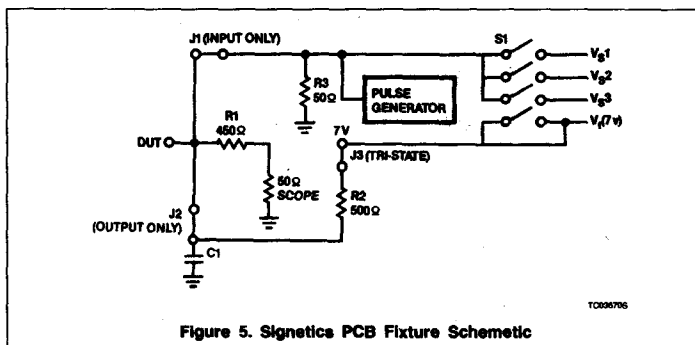
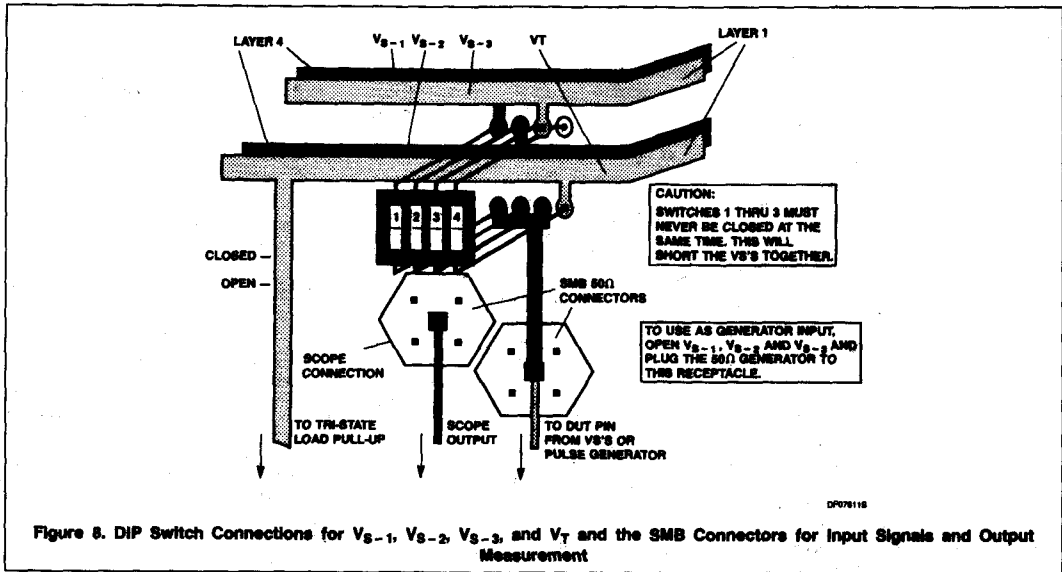

Figure 5. Signetics PCB Fixture Schematic
Figure 8. DIP Switch Connections for V_{S-1} , V_{S-2} , V_{S-3} , and V_T and the SMB Connectors for Input Signals and Output Measurement
There are two types of signal lines on this fixture: input and output; both of which are 50Ω transmission lines. The input line is on the top side of the board and is always terminated in 50Ω . It is connected to the DUT via a .3" jumper, Jumper #1 for input. When this jumper is installed, the DUT pin is available only as an input. To allow this line to be used as an output, a .1" jumper, Jumper #1 for output, is used instead of the .3" jumper. This connects the DUT pin to the AC load when the DUT pin is an output. See Figure 5.
As illustrated in Figure 5, the load is shared with the 50Ω input of the measurement system; a 50Ω sampling oscilloscope. The 450Ω resistor: R1, is soldered to the socket pin of the device and is in series with the 50Ω input of the scope. Figure 6 illustrates this on the board layout of one input/output pin. This allows virtually a probe tip on the device pin. The load capacitor: C1, is a 33pF ceramic chip capacitor. This is added to the measured value of 17pF of board capacitance, achieving the 50pF value specified for the load. The distance from the pin to the capacitor is .5 inches and is adequate for the testing of these product families.
For testing 3-State parameters, the 500Ω resistor: R2, is connected to its pullup supply. V_1 via a .3" jumper: Jumper #2. The V_1 supply is bussed to each pin and may or may not be connected with that jumper. See Figures 5 and 6.
hard to detect errors into the waveform. The second reason being that most suppliers of these technologies provide data based upon the Low-impedance approach and most large users of these products do so as well. This also allows the fixture to be used for ECL testing since that product uses a totally 50Ω environment. Figure 5 illustrates how this test fixture implements the 50pF/500Ω load schematically.
When the input is not used for a signal input, the line may be switched to one of three voltage sources: $V_S 1$ through $V_S 3$, by the use of a DIP switch on each pin. It may also be left open and then the 50Ω pulldown resistor: R1, pulls the line to ground and can be used as a hard low level. See Figure 5. These voltage levels are brought in from external supplies through banana connectors like V_{CC} . This scheme eliminates excessive cabling to each input to provide the static input levels and thereby reduces parasitic inductances and cross-talk. Each of the 3 busses and the V_i bus all have places for bypass capacitors in the event of noise on the static levels. Figure 8 illustrates the DIP switch and SMB connectors and how they control the input stimulus and output measurement.
As stated previously, the measurements are made with 50Ω sampling systems. The connections to these systems are made via SMB connectors. This was chosen since it is compatible with SMC; it is push-on, it is small for easy configuration, and it is capable of high bandwidth operation. Figure 8 illustrates where the connections are made, where the pulse generators connect to the input and an SMB connector. Since the 450Ω resistor: R1, is soldered directly to the pin of the device, the actual probe tip is at that point. See Figure 6. This has the advantage of eliminating any distance from the device to the probe tip, thus guaranteeing accurate results.
dedicated fixture. However, on a dedicated fixture, the pins are individually constructed to be either an input or an output, and in so doing, the fixture is usable for 1-to-4 devices. The Signetics fixture, once dedicated to a particular V_{CC} and GND configuration, is built up to have both input and output components on all signal pins. The selection of which pin is an output or an input is made by inserting the appropriate jumper, See Figures 5 and 6. The same applies in doing tri-state testing. The tradeoff here is that it would probably take less time to setup the dedicated fixture than the Signetics fixture. To help compensate for that tradeoff, we have the three V_S supplies that may be switched into any pin to provide input static levels and eliminate the need to bus input High or Low levels by external cabling. For the user that means the only connections being made to the fixture are:
- the V_i supply (banana jack): this is the 3-State pullup voltage and is permanently connected to the bus to each pin. It is selectable by Jumper #2, see Figures 5 and 6. For FAST and ALS products this is $7V$. For ACL products this is $V_{CC} \times 2$ and it is not used for ECL applications.